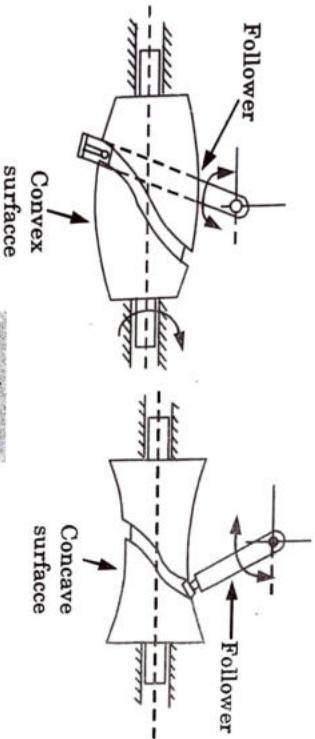

Fig. 5.14.4.
2. A circumferential contour is cut on the surface of rotation of the cam to impart motion to the follower which has an oscillatory motion (Fig. 5.14.4).